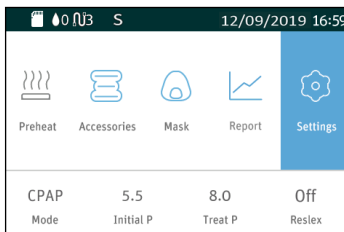

Fig. 16-4
**Note:** The above interface is only applicable to devices that do not have the modes of SmartC, SmartA or SmartB activated. If SmartC, SmartA or SmartB is enabled, the symbol **S** will appear in the status bar at the top of the screen, as shown in Fig. 16-4.
**Note:** As the humidity is turned off, the Preheat Function Icon  will turn gray, as shown in Fig. 16-4.